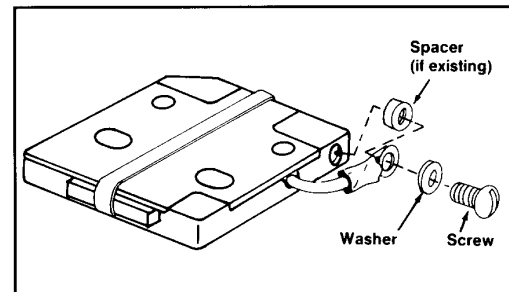

Figure 6 - Attaching Terminal to Lead
- h. Replace the screw and washer and spacer(s) (if required) as shown in Figure 6.